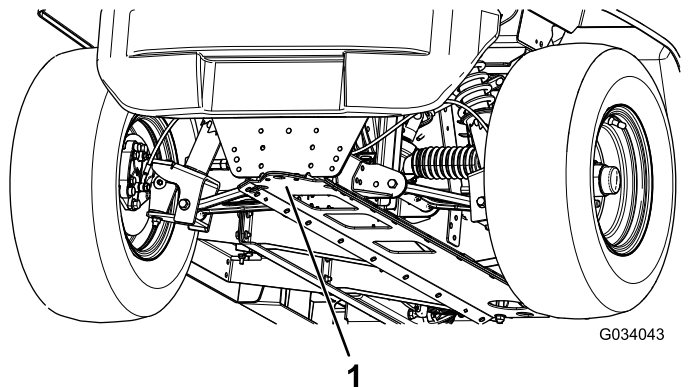

Figure 23
- The lifting point at the front of the machine is located at the front of the frame, behind the towing tongue (Figure 23).